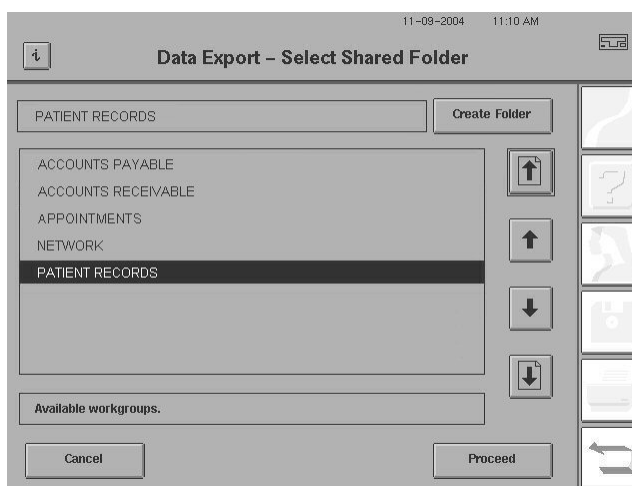

Figure I.13 Shared-folder Browser for Workgroups
- 7 When you select the BROWSE FOR SHARED FOLDER button, a "Select Shared Folder" screen will open, listing Windows Workgroups/Domains. Select a Workgroup/Domain (such as PATIENT RECORDS, shown in Figure I.13). Then, select PROCEED.